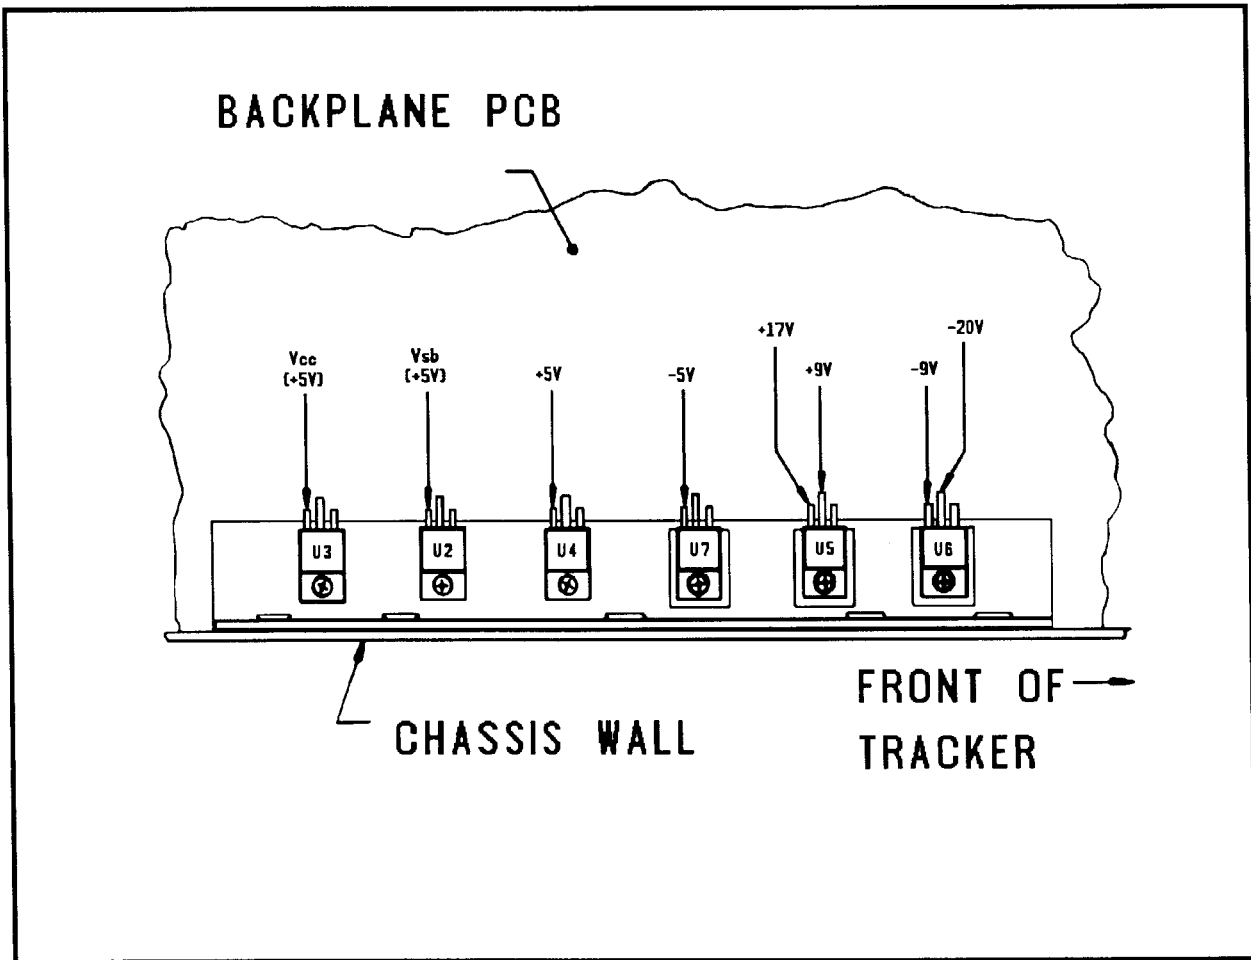

Figure 3-11. Backplane PCB Voltage Regulators and Test Points.
4. There are six voltage regulators on the Backplane PCB as shown in Figure 3-11. Use the DMM to measure the testpoints indicated in Figure 3-11 and compare the measured voltages with the limits shown in Table 3-4.